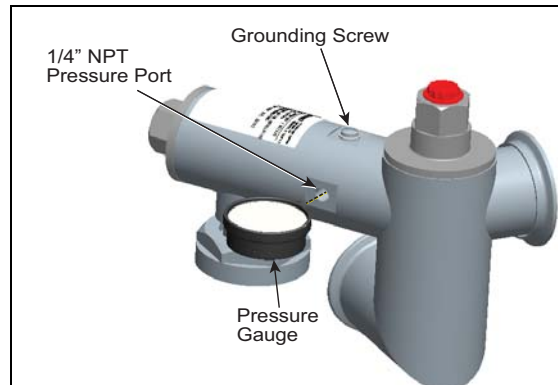

Figure 8. Installing Pressure Gauge In Pressure Port Of Manifold
2. Remove the Pressure Gauge from its packaging and apply DEF compatible thread sealant on the 1/4 NPT threaded fitting of the gauge. Insert the Pressure Gauge into the pressure port (Figure 8) of the DEF Manifold and hand tighten. Tighten an additional 1 to 2 turns as need for correct orientation (dial facing up) and tightness. NOTE: The Pressure Gauge will need to be readable for diagnostics, preventive maintenance or inspection of the RJ DEF System.